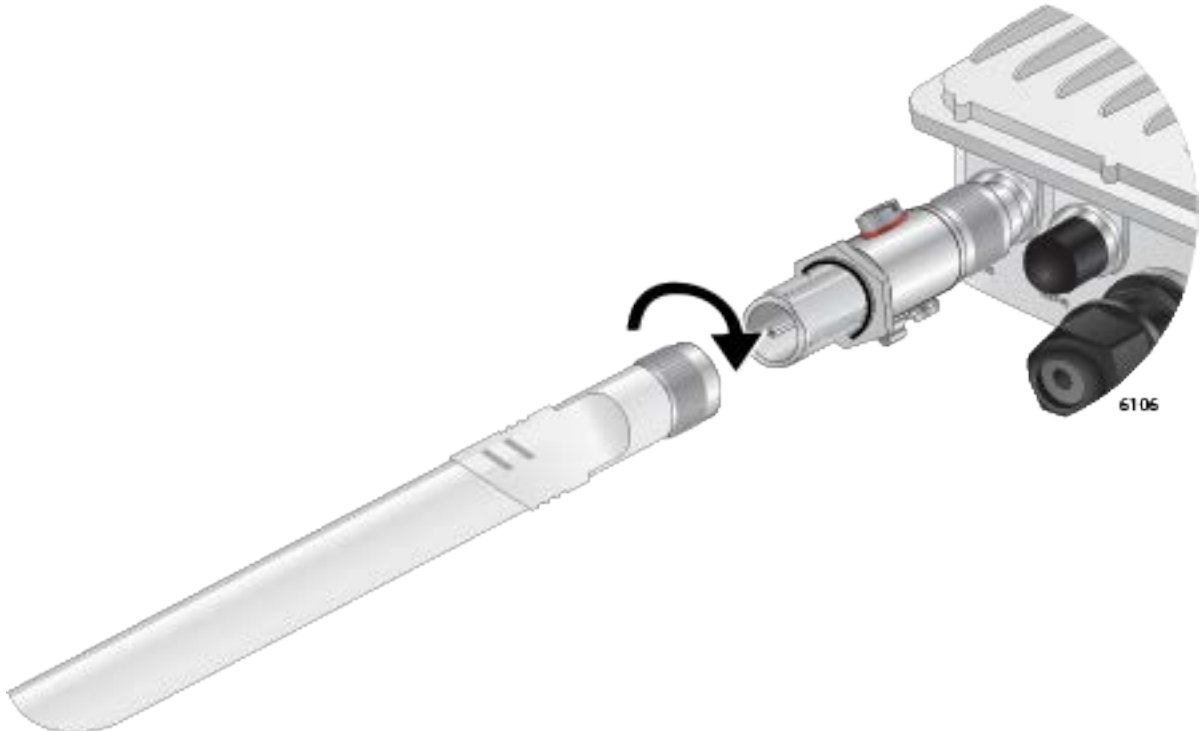

Figure 21. Installing an Antenna on a Surge Protector
5. Screw an antenna onto the surge protector. Refer to Figure 21.